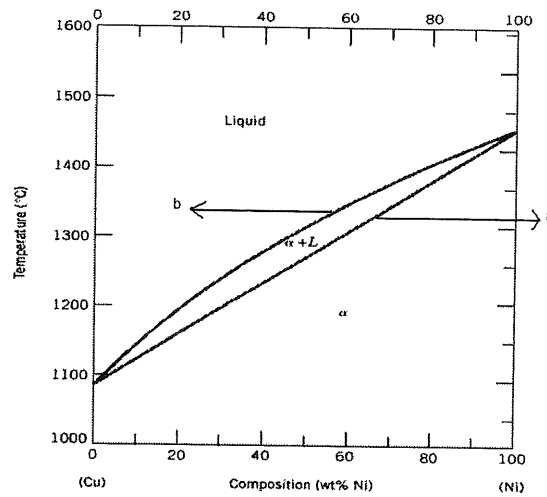

Figure 1
- a) Based on Figure 1, shows Cuprum – Nickel system alloy is slowly cooled from 1400°C to 1200°C. Find: